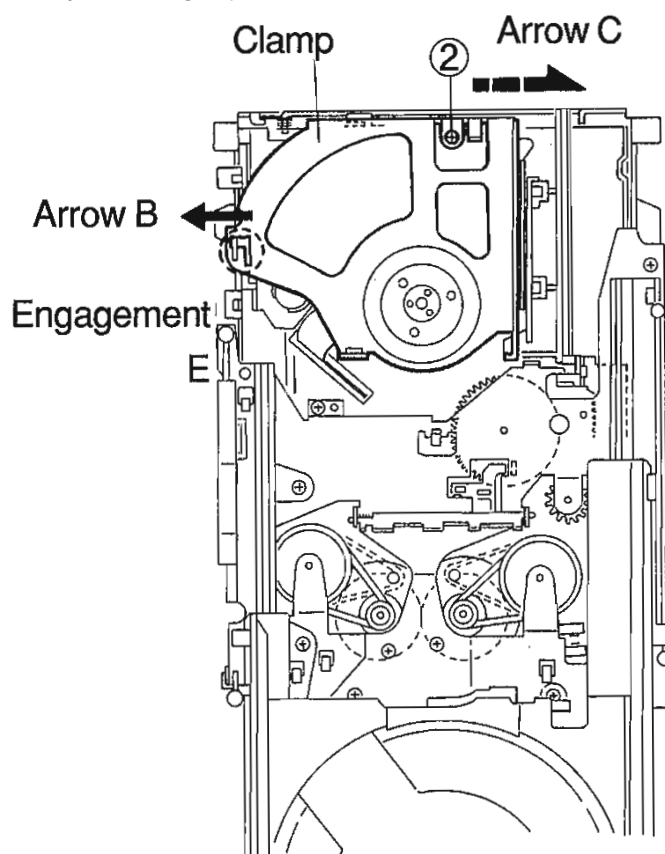

Fig.3
5. Remove the one screw 2 retaining the clamper (See Fig.3).
6. After moving the clamper in the arrow B direction and shifting it in the arrow C direction, take it out from the engagement section B (See Fig.3).